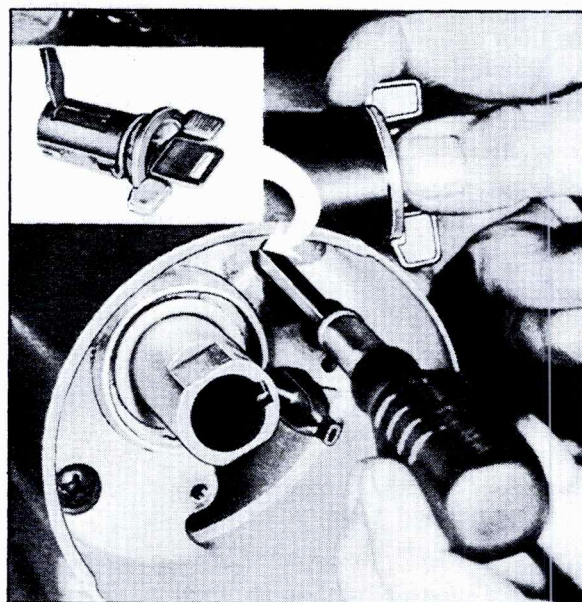

Fig. 9-48 Removing Lock Cylinder
17. Insert a small, thin screwdriver into slot next to the switch mounting screw boss, Fig. 9-48. Gently tap on screwdriver until screwdriver breaks through thin wall of casting. Depress lock cylinder retaining tab with screwdriver and remove lock cylinder.